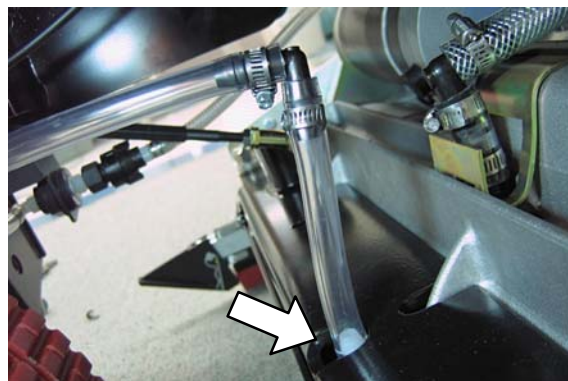

Fig. 46
5. Connect the *ec*-H₂O solution hose assembly (Figure 42) to the spray bar as shown (Figure 46). Clamp is not required.